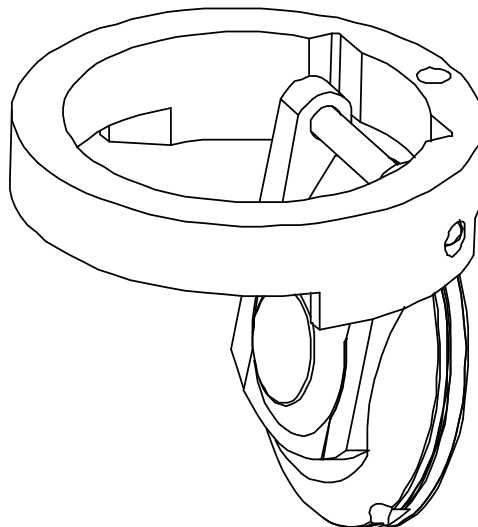

Figure 2: Flapper Assembly
3. Align the flapper (5) between the holes of the pivot pin retainer (4) and insert the pivot pin (8) into the retainer and flapper. The pin should slide through and be loose fitting. Be sure that the retainer is oriented as illustrated in Figure 2.